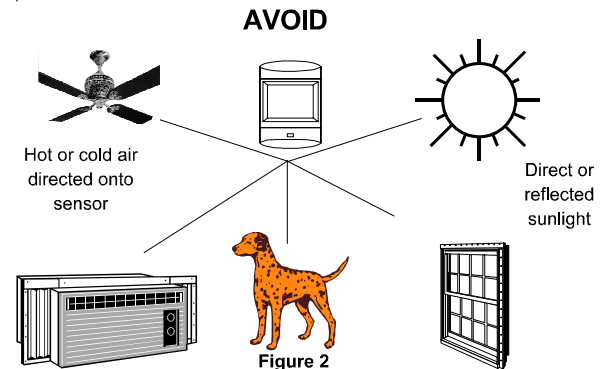

Figure 2
- Aim at air conditioners, heat vents, wood stoves, fireplaces, intermittent heat sources, etc., see Figure 2.
- Aim at normally moving objects (ceiling fans, pets, etc.), see Figure 2.